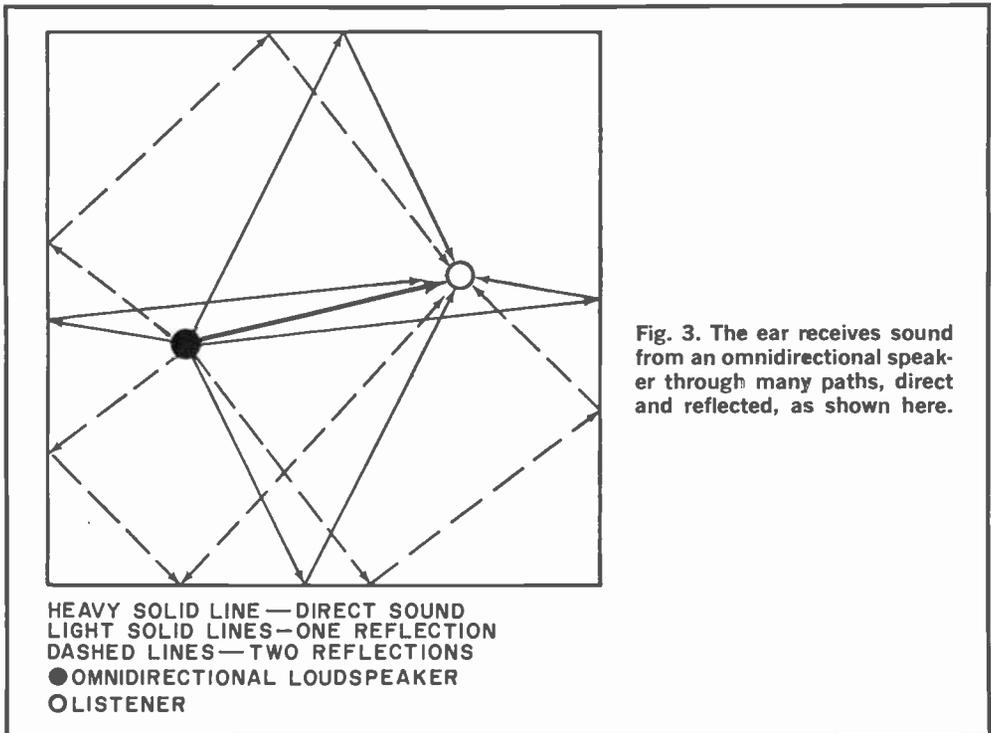

Fig. 3. The ear receives sound from an omnidirectional speaker through many paths, direct and reflected, as shown here.
**Fact:** The ear receives sound from a speaker through two paths (see Fig. 3)—the sound arriving directly from the speaker and the sounds which arrive after one or more reflections. The ear judges the directional characteristics of the source by evaluating the ratio between the direct and reflected sounds.